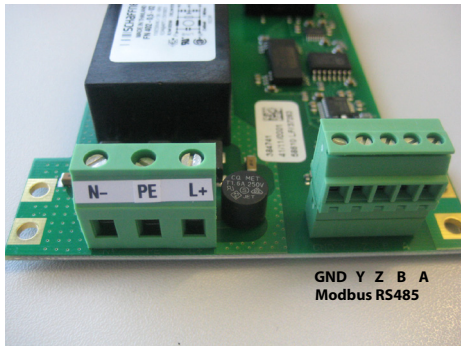

Figure 26: Power supply terminals
2. Connect the battery to the connection socket on the power supply board. See Figure 26.